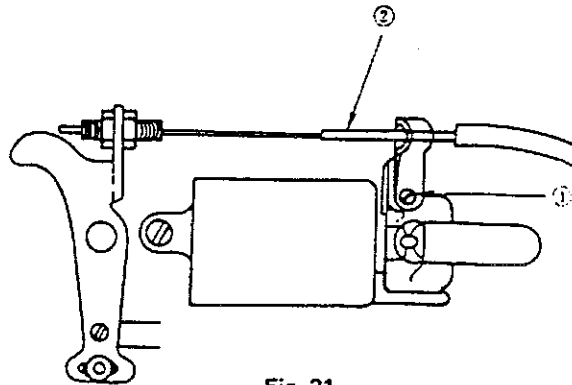

Fig. 21
- ① To increase the floating amount, loosen screw ① (Fig. 21), and move tension release wire ② to the right.
- ② To decrease the floating amount, loosen screw ①, and move tension release wire ② to the left. After adjustment, securely tighten screw ①.